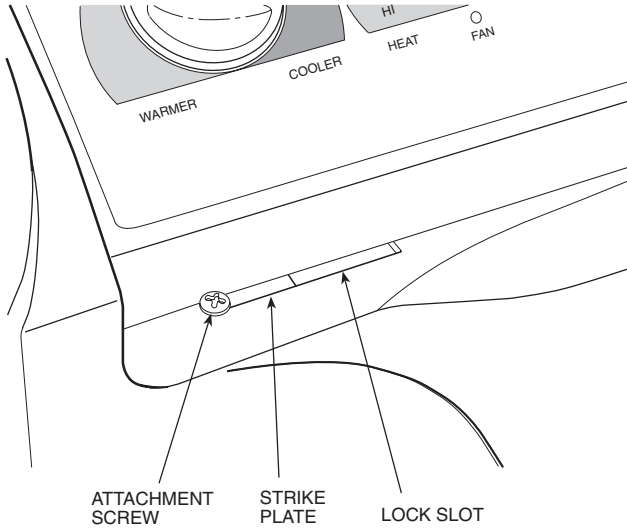

Fig. 4 — Location of Attachment Screw
4. Install attachment screw. *Do not over tighten.* See Fig. 4.